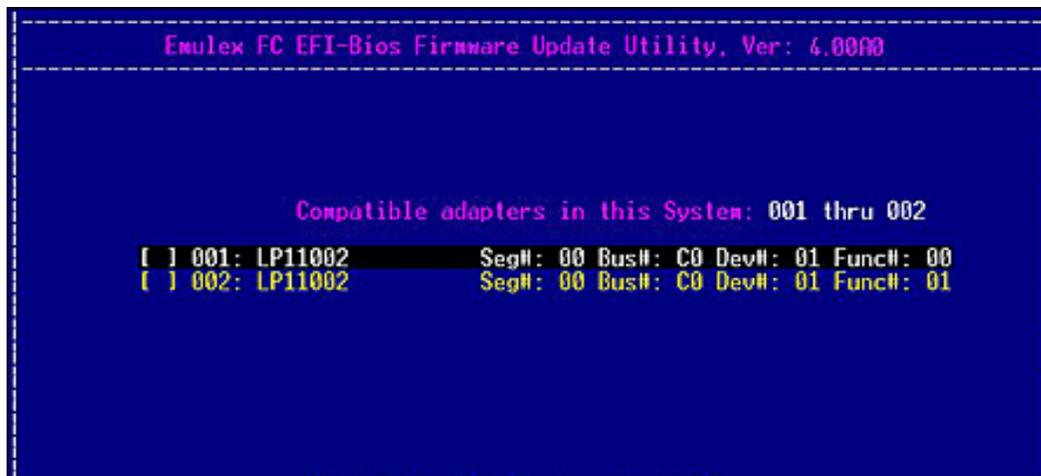

Figure 62: Compatible Adapter List
2. Select **2. Batch Mode Update**, and press **<Enter>**. A list of all adapters of the model selected when you started the EFI utility is displayed (Figure 62).